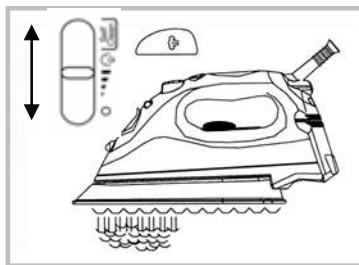

Fig. 2
4. Turn the temperature dial to any of the temperatures within the steam band and allow the iron to heat for approximately two (2) minutes before ironing. Place iron on its heel (on a stable, protected surface) while the iron is warming to desired temperature.
5. Turn the variable steam control lever to the right to increase the amount of steam. When using extra steam, the iron uses more water and it may be necessary to fill the water tank more often. (Fig. 2)